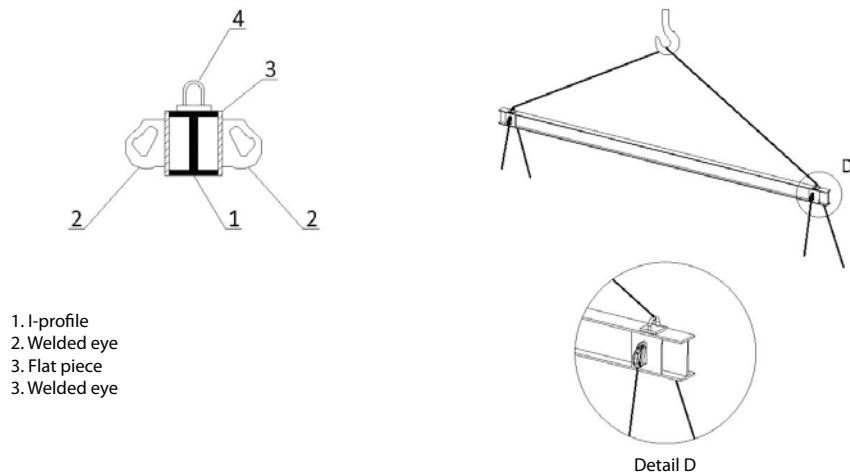

Figure 3 – Recommended design of handling horizontal bar
- Handling horizontal bar with attachment points, see Figure 3
- Fasten the binding equipment to the handling bar, see Figure 3
- Fasten the crane hook to the handling bar, see Figure 3
- ATTACH THE BINDING EQUIPMENT TO THE HANDLING BAR, SEE FIGURE 3
- ATTACH THE CRANE HOOK TO THE HANDLING BAR, SEE FIG. 3